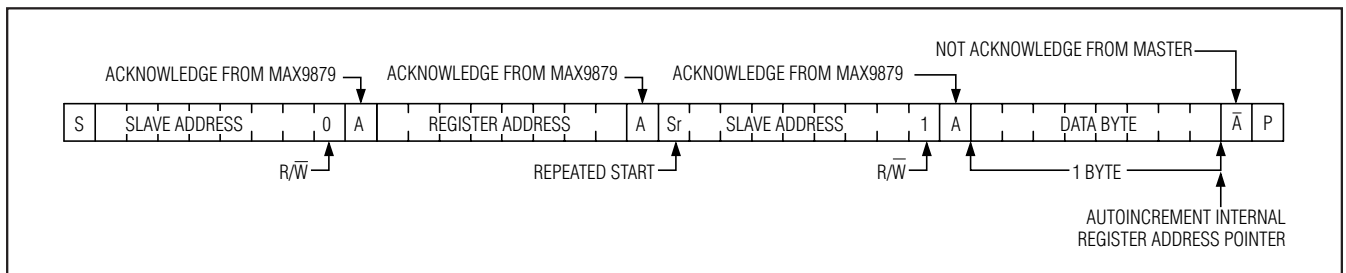
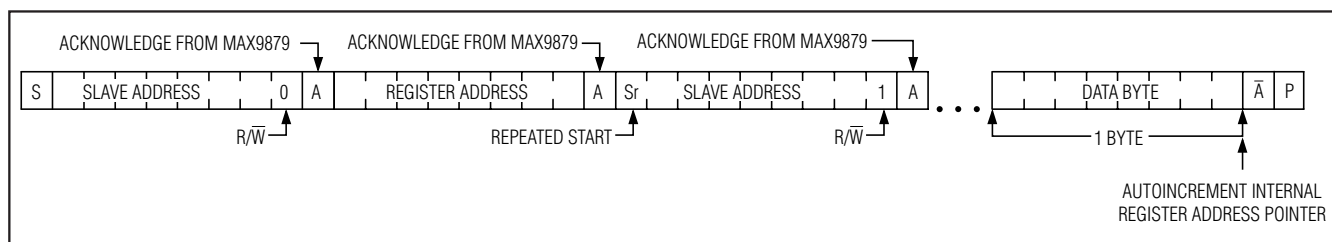

Figure 11. Reading One Indexed Byte of Data from the MAX9879
Figure 12. Reading  $n$  Bytes of Indexed Data from the MAX9879
The address pointer can be preset to a specific register before a read command is issued. The master presets the address pointer by first sending the MAX9879's slave address with the  $R/\bar{W}$  bit set to 0 followed by the register address. A REPEATED START (Sr) condition is then sent followed by the slave address with the  $R/\bar{W}$  bit set to 1. The MAX9879 then transmits the contents of the specified register. The address pointer autoincrements after transmitting the first byte. The master acknowledges receipt of each read byte during the acknowledge clock pulse. The master must acknowledge all correctly received bytes except the last byte. The final byte must be followed by a not acknowledge from the master and then a STOP (P) condition. Figure 11 illustrates the frame format for reading one byte from the MAX9879. Figure 12 illustrates the frame format for reading multiple bytes from the MAX9879.